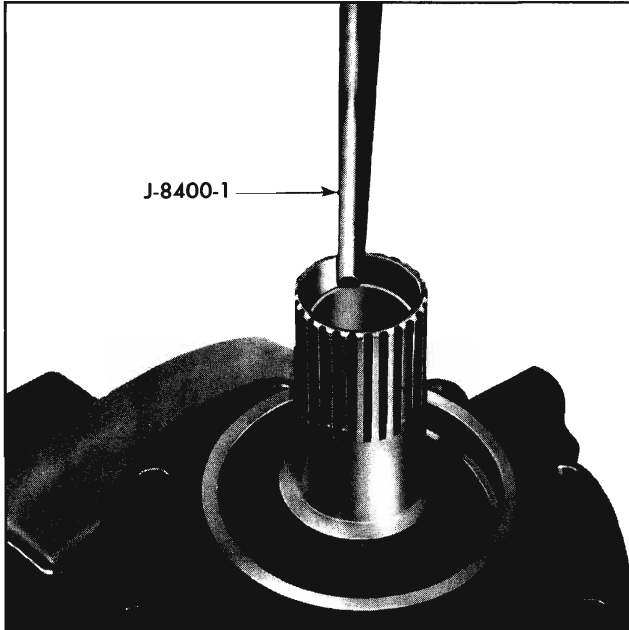

Fig. 4-49 Removing Stator Shaft Bushing
6. Remove stator shaft bushing using tool J-8400-1 (Fig. 4-49).